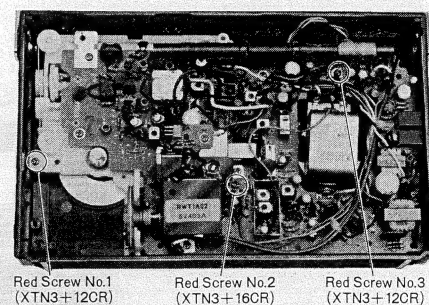

Fig. 2
5. Remove the three (3) red screws (nos. 1~3) for the chassis, as shown in fig. 2.